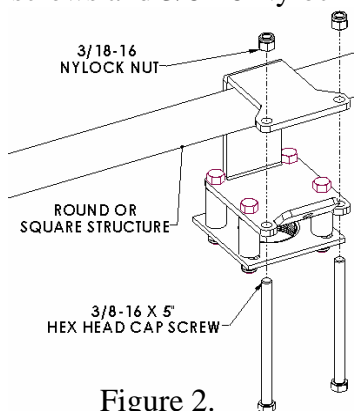

Figure 2.
- 2) Install two 3/8-16 X 5” hex head cap screws and 3/8-16 Nylock nuts (see Figure 2).